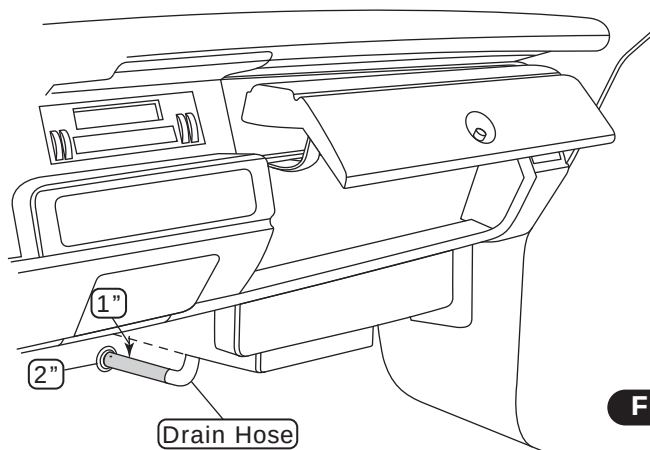

Figure 1
1. Locate the #8 compressor A/C hose. Lubricate (2) #8 O-rings (See Lubricating O-rings, Page 10), and connect the 90° female fitting to the #8 discharge port on the compressor. Then route the straight female fitting with R134a service port to the #8 condenser hardline coming over the core support. Tighten each fitting connection.
2. Locate the #10 compressor A/C hose. Lubricate (2) #10 O-rings (See Lubricating O-rings, Page 10), and connect the 45° fitting to the #10 suction port on the compressor. Then route the 45° female fitting with R134a service port to the #10 hardline on the inner fender cap. Lubricate (2) #10 O-rings (See Lubricating O-rings, Page 10), and connect the 90° female fitting in the wheel well to the #10 hardline on the inner fender cap. Then route the straight female fitting from the inner fender cap to the #10 fitting on the evaporator (See Figure 1a, Page 13 and Figure 1, Page 16). Tighten each fitting connection.